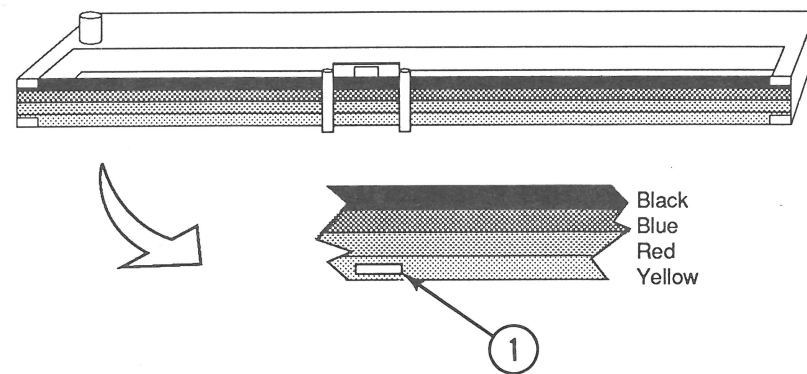

FIGURE 8
2. Compare your printout with the color sequence of the ribbon to determine whether the printer is printing above or below the center of the color bands (Figure 8, #1).